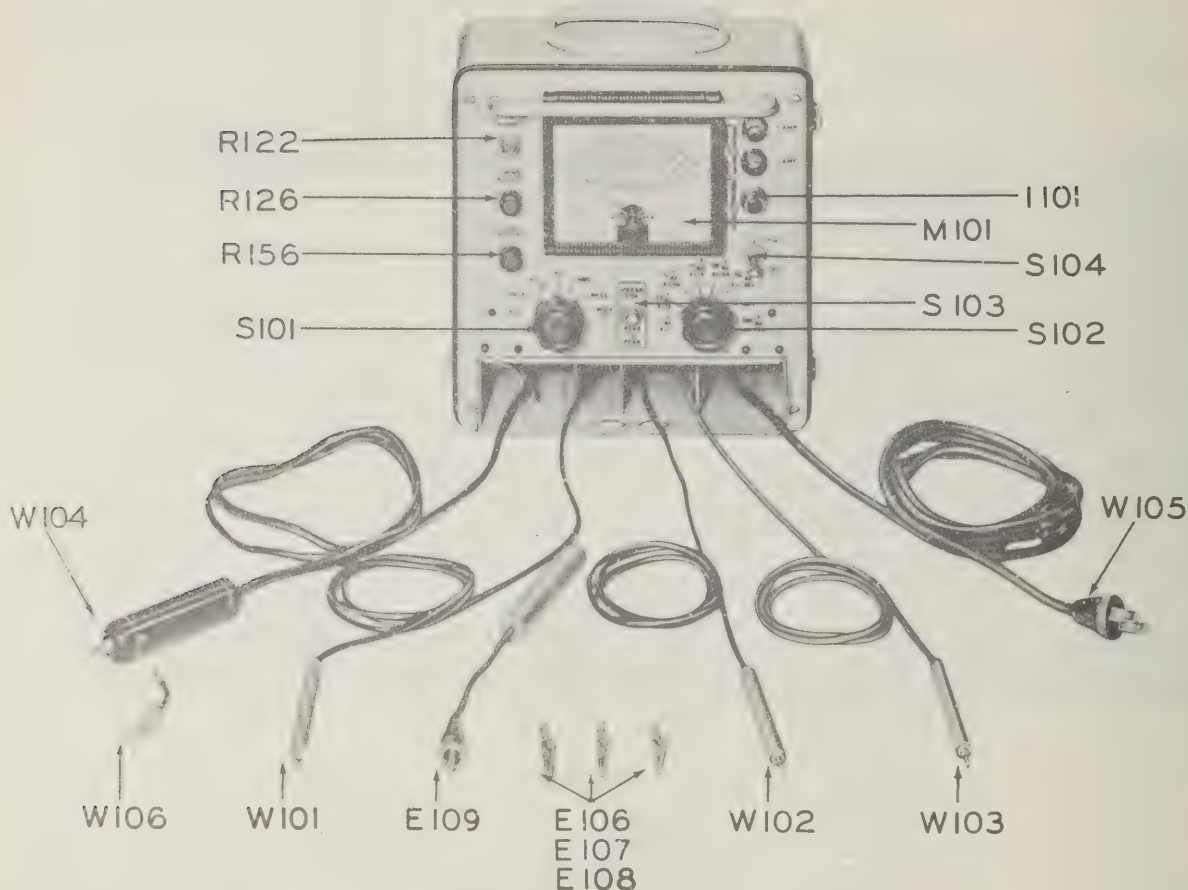

Figure 4-1. Multimeter ME-25B/U; Front Panel Control, Leads, and Accessories.
a. All the probes and cables, including the power line cord, are stored inside the lead compartment at the bottom of the front panel of Multimeter ME-25B/U. Sufficient space is included in this compartment to store test leads W-101, W-102, W-103, W-104, and W-106, power line cord W-105, and accessories E-106, E-107, E-108, and E-109. These are all shown in figure 4-1.
b. Zero the meter indication before any power or signal is applied to the instrument. Adjust the zero set screw in the face of the meter (see figure 4-1) until the meter pointer rests over zero at the left hand side of the meter.
Use the following check list to select the appropriate pair of probes for use on each type of measurement with Multimeter ME-25B/U. See figure 4-1 to identify the probes.